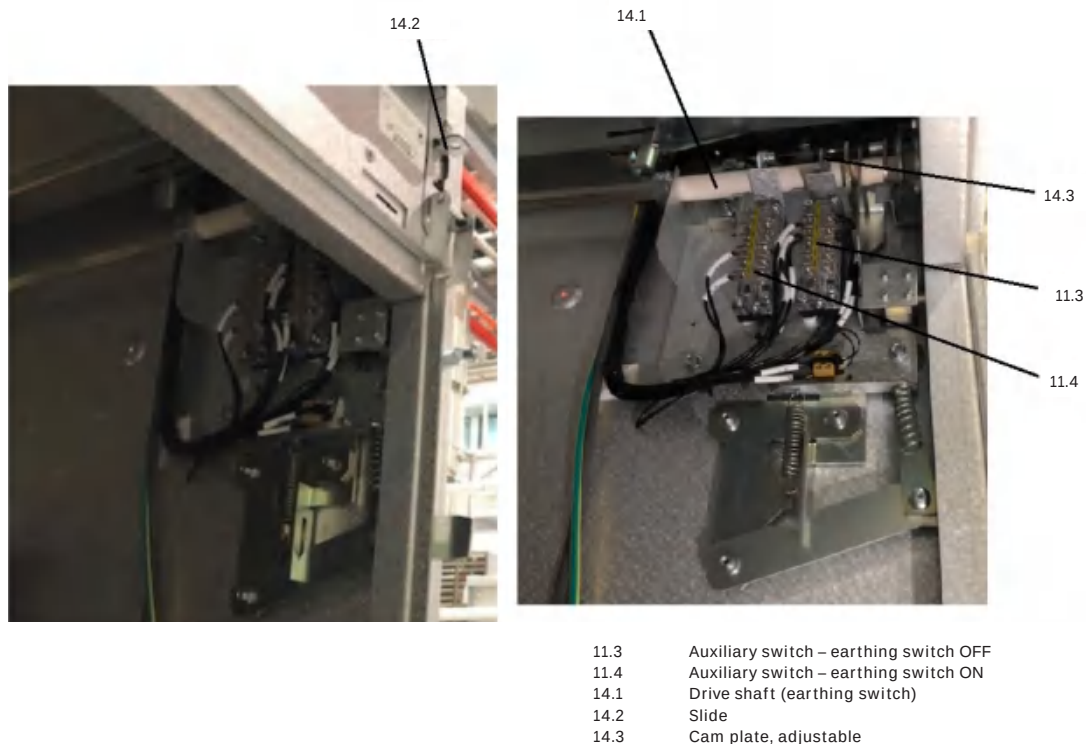

Figure 72 Manual earthing switch mechanism with auxiliary switches (side cover has been removed)
- The auxiliary limit switch (Fig. 72) for earthing switch OFF must be operated on earthing switches with manual mechanisms during the opening movement of the slide (Fig. 72), and before half of the hexagonal shaft has become visible, or 1 mm before the tab of the slide makes contact with the armature of the de-energized locking magnet